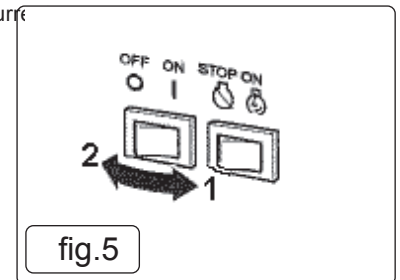

fig.5
4.5. Economy control switch (ECS) fig.5
4.6.1. Earth terminal fig.5.(1) connects the earth line to prevent electric shock.